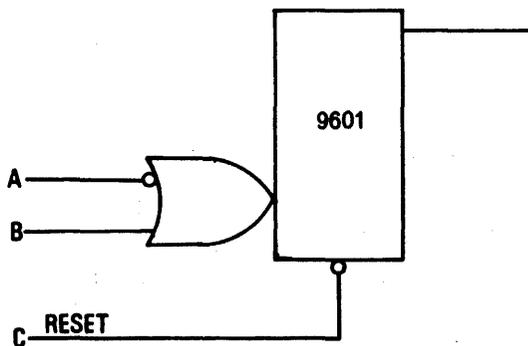

Figure 3-1. Logic Example
The type of logic used in the B9489 is Transistor-to-Transistor logic (TTL). The high level is +2 to +5 volts and the low level is +0.8 volts to 0 volts. Normally TRUE is considered as high and FALSE is low, however there are exceptions, particularly on the interface, where a low is TRUE and a high is FALSE. Such signals are generally marked (/) next to the signal name indicating that the function is active when the signal is low. On the card schematic a negation symbol (0) is used to indicate when a low activates a function. Figure 3-1 illustrates a typical exception.
The IC in figure 3-1 is triggered by a low on A or a high on B and is reset by a low on C.